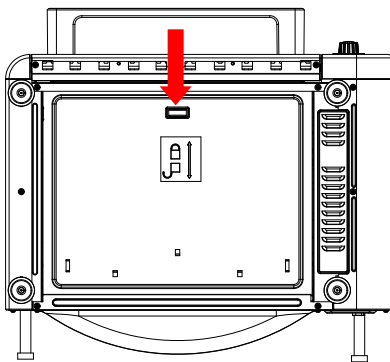
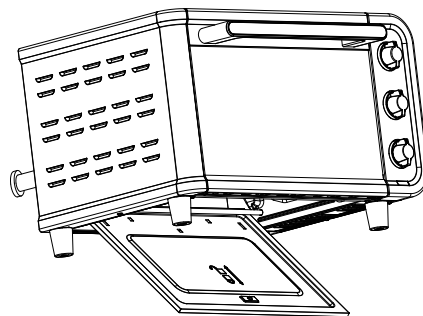

Fig.1
Fig.2
5. Press down the tab of crumb tray as red arrow illustrated (see Fig. 1) and push it towards to the rear wall of toaster oven to open the crumb tray (see Fig. 2). Wipe interior of crumb tray with a damp cloth. After cleaning, close the crumb tray to the bottom of oven and then pull it towards to the direction of oven door to lock it.